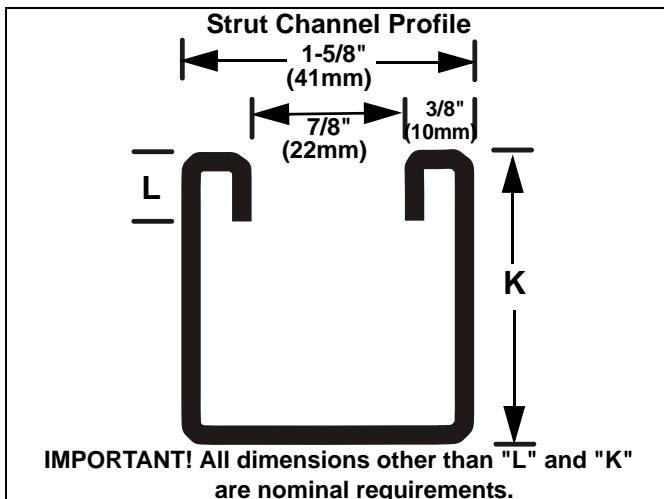
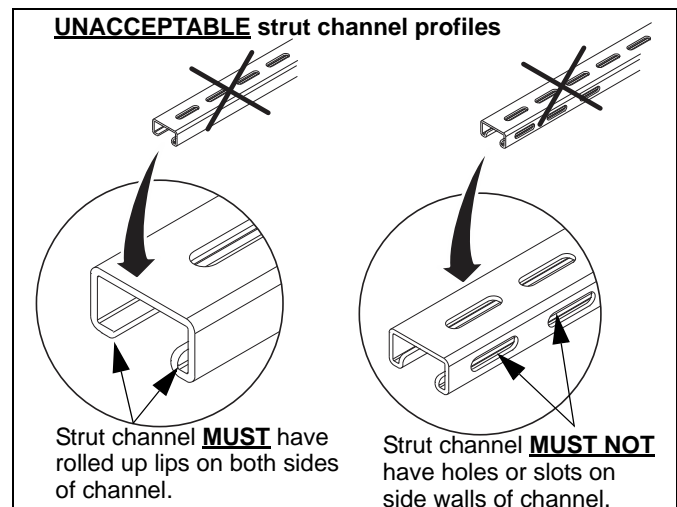

Figure 3
Figure 4
**IMPORTANT !** : Strut channel **must** be made of steel with a minimum yield strength of 33ksi (230MPa), **OR** aluminum (6063-T6, 6005-T5 or stronger) with a minimum yield strength of 30ksi (207MPa), and meeting the profile and dimension requirements outlined in Table 2, dependent on whether it is a flat wall or curved wall installation. (See Figure 3) and (See Figure 4)